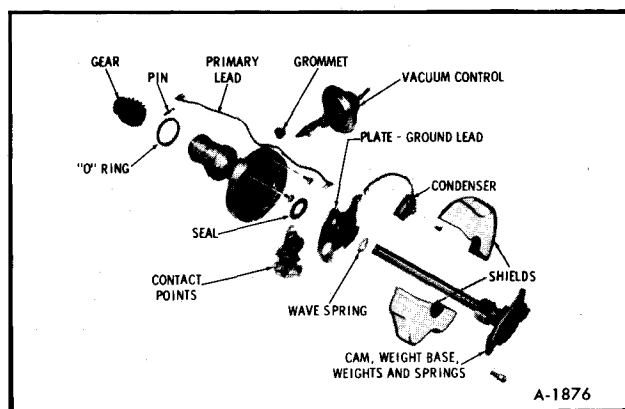

Figure 44—Distributor Disassembled
4. Remove the retaining ring from the upper bushing and lift the breaker plate and felt wick from the bushing. (figure 44)